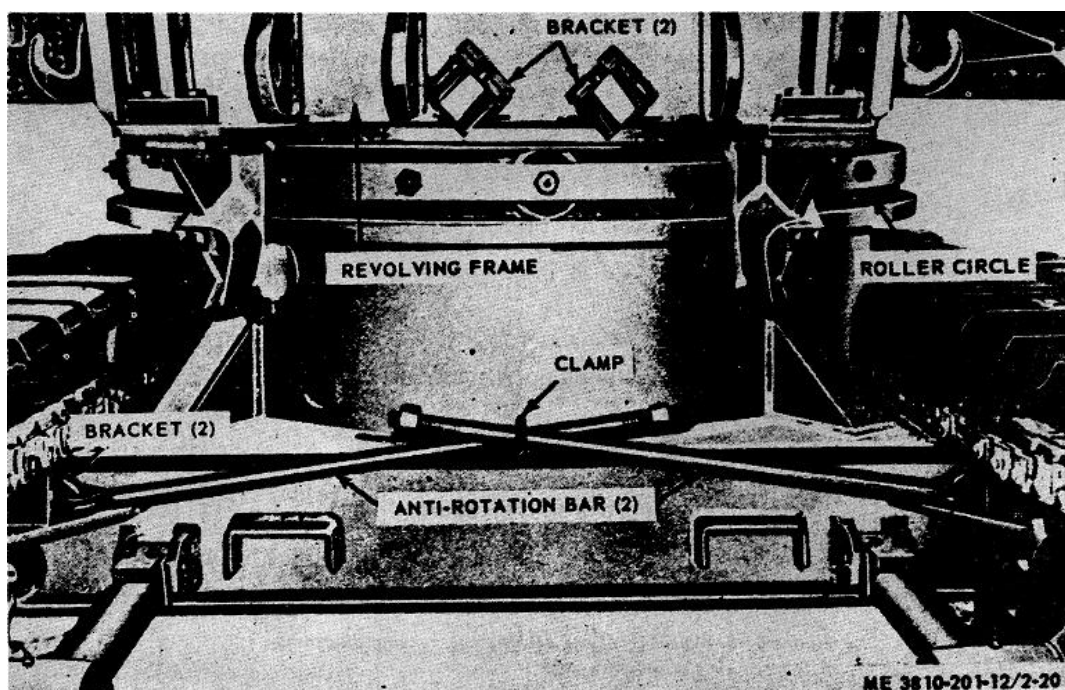
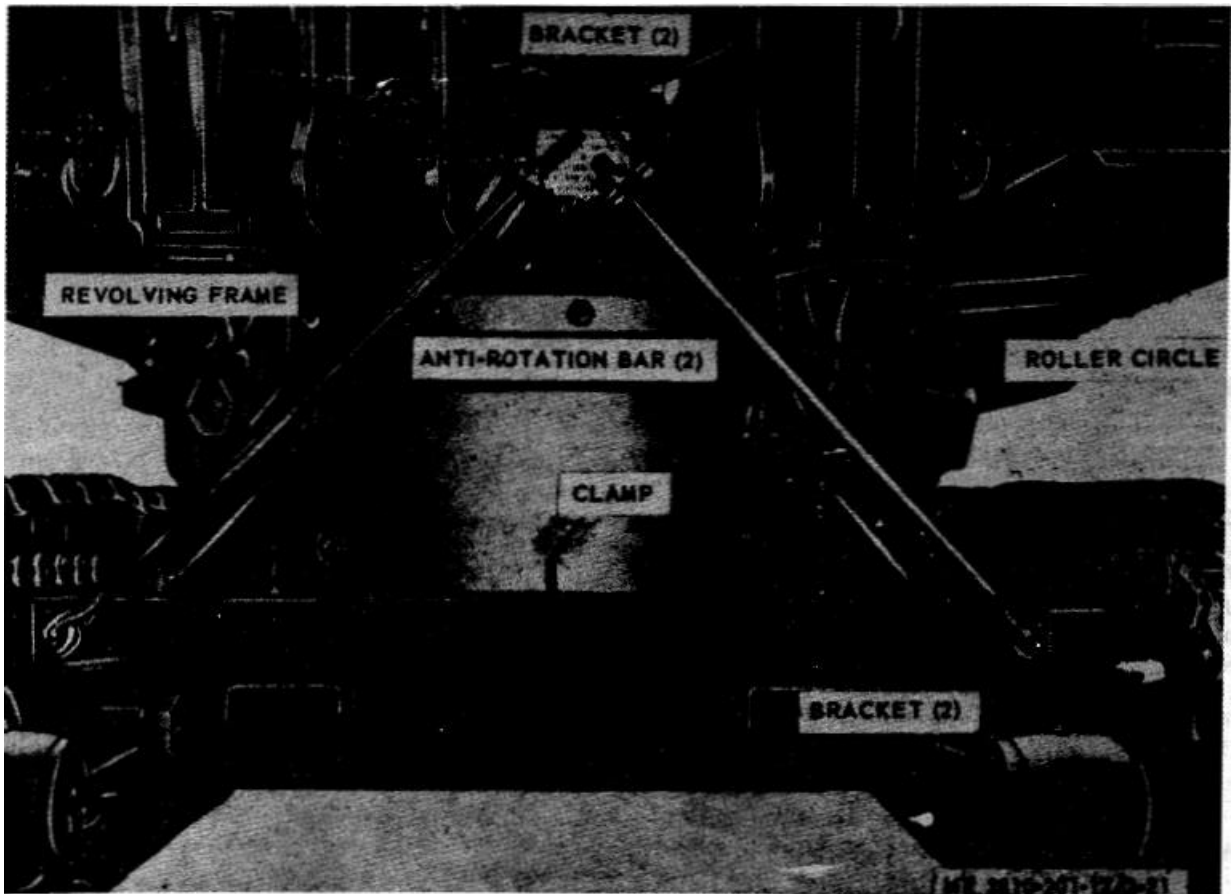

Figure 2-20. Anti-rotation bars, stowed.
Figure 2-21. Anti-rotation bars, installed.
(1) Prepare crane shovel for temporary storage as directed in TM 740-93-1.
(2) Remove anti-rotation bars from their stowed position (fig. 2-20), and install (fig. 2-21), to prevent cab and platform movement.
(3) Remove floodlights (para 3-170) and pack them in a box, protected by ample quantities of cushioning material.